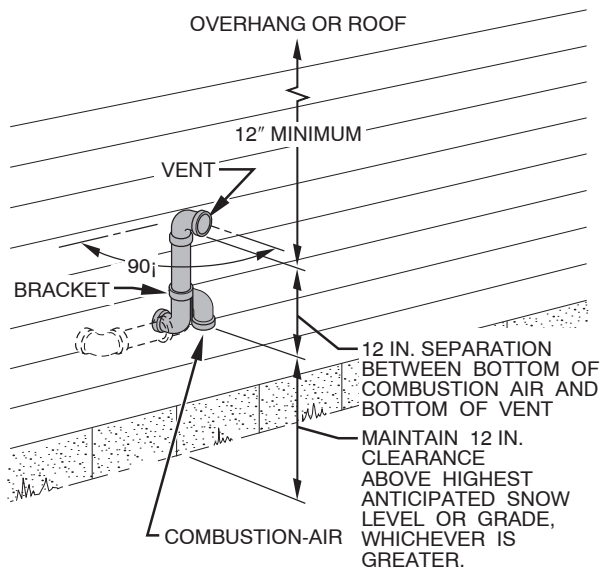

Fig. 4 - Sidewall Termination
1. Install elbows as shown in Fig. 4 using procedures for cementing found in installation literature packaged with furnace.
2. Install bracket as shown in Fig. 4.
3. Position vent pipe and elbow to maintain vertical 12-in. separation between vent pipe outlet and combustion-air inlet. Cement vent pipe in elbow as shown in Fig. 4.
4. For applications using vent pipe option indicated by dashed lines in Fig. 4, rotate vent elbow 90° from position shown in Fig. 4.